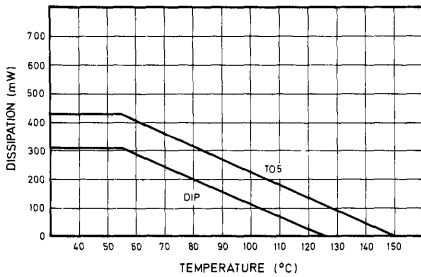

Fig. 15 Ambient operating temperature v. degrees centigrade
- Storage temperature -55° C to 150° C (CM)
-55° C to 125° C (DP)
- Junction temperature 150° C (CM) 125° C (DP)
- Junction-case 60° C/W (CM)
- Junction ambient 220° C/W (CM) 230° C/W (DP)
- Maximum power dissipation See Fig.15
- Operating temperature range -55° C to +125° C (CM) at 100mW
-55° C to +100° C (DP) at 100mW